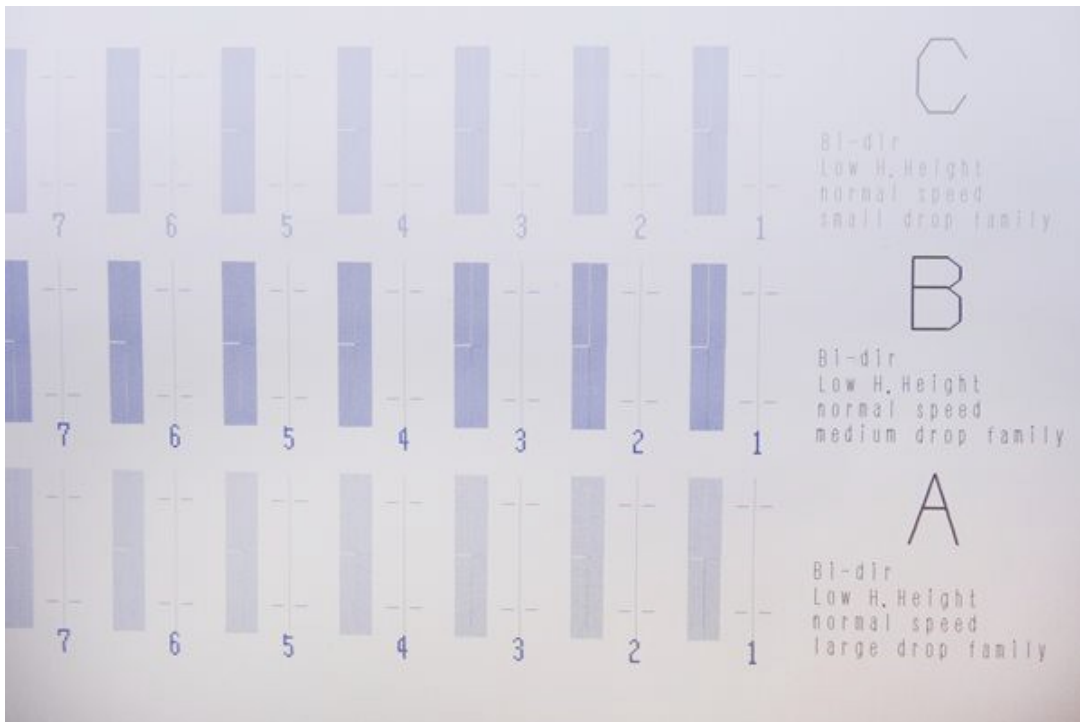

Figure 87
74. A set of patterns will begin printing. See Figure 87.